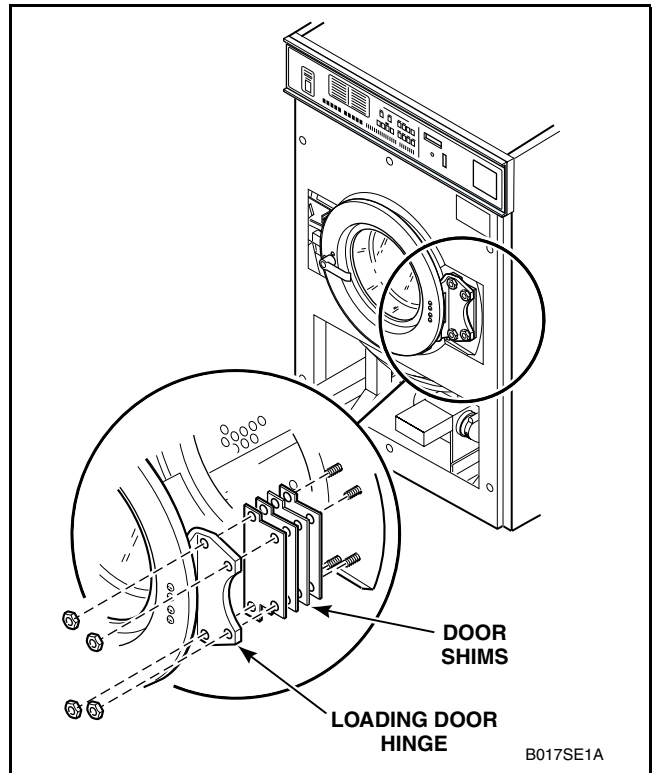

Figure 18
- Remove four nuts holding loading door hinge to shell front, refer to *Figure 18*.
- g. Remove four nuts holding loading door hinge to shell front, refer to *Figure 18*.